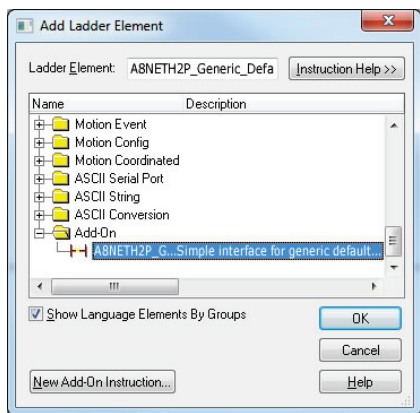

Figure 49: Add Generic Default Add-On Instruction
- 8) Select the generic default I/O add-on instruction in the Add-On folder. Refer to Figure 49.